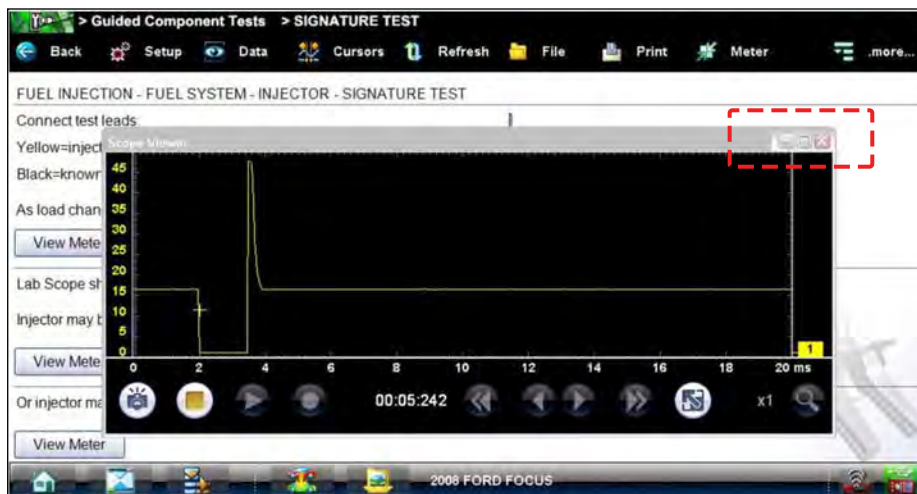

Figure 7-11 Sample meter view in a separate window
2. Select the **Meter** icon a second time and the meter open as a separate window (Figure 7-11). This window can remain open if you switch to the Scan Module and can be accessed from the Windows toolbar at the bottom of the screen. You can also resize and reposition the meter window on the screen.